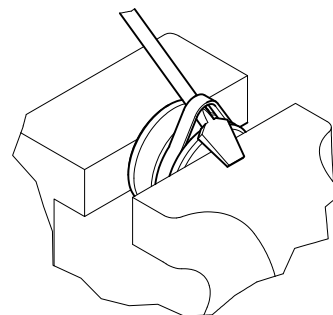

Figure 20, Remove piston seal
7. Carefully pry up on the piston seals using a blunt tip screw driver being careful not to scratch the seal grooves. Cut the seals to remove from the piston. (Figure 20)